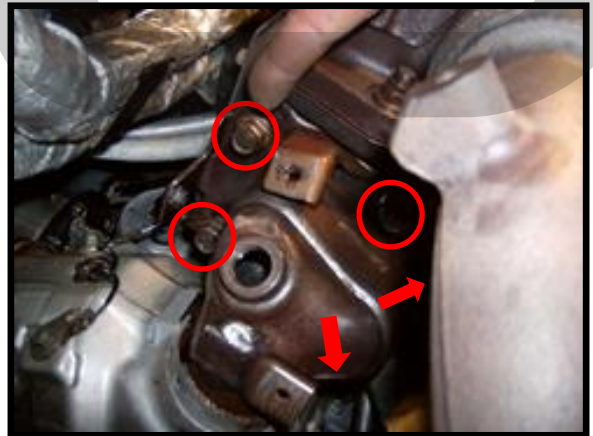

Figure 6b
- c) Remove the five 14mm nuts attaching the downpipe to the turbo. Shown with **red circles** and **arrows** in **Figure 6b.**